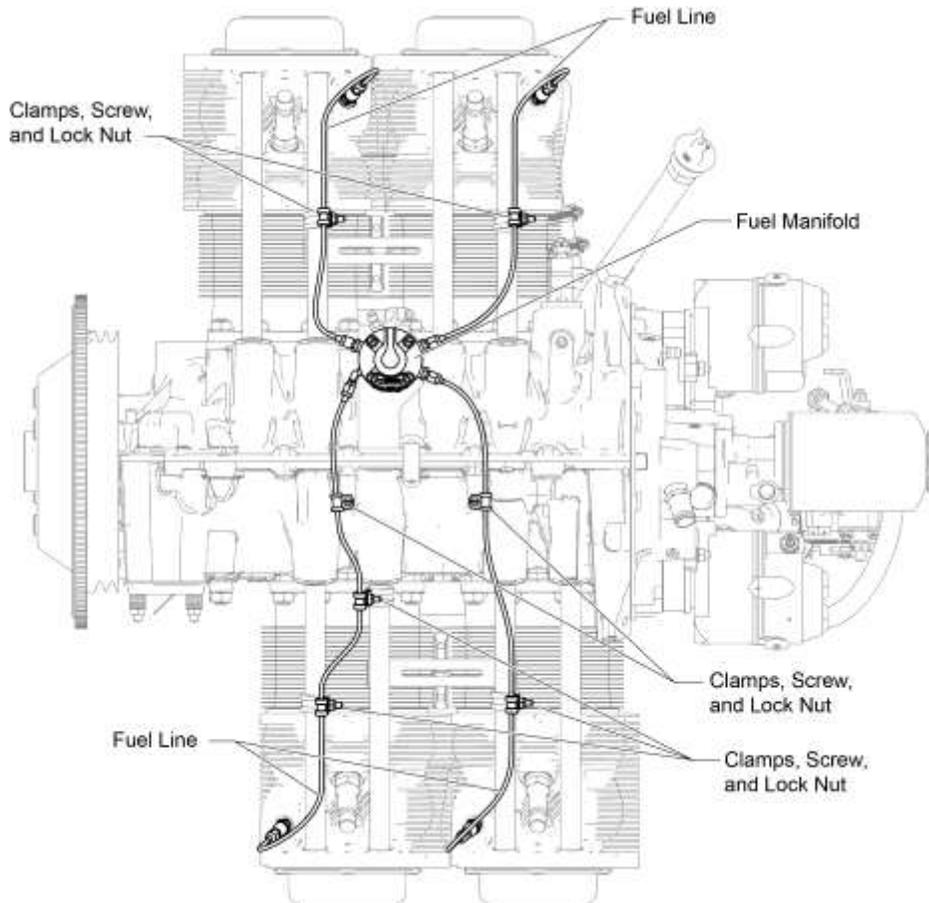

Figure 1
NOTICE: Figure 1 is a general conceptual reference figure of fuel system components. Some of the LIO-360-B1G6 Engines contain fuel system components made up of different configurations and part numbers. Refer to the applicable latest edition of the *LIO-360-B1G6 Illustrated Parts Catalog* for part number details.
- C. Examine the fuel manifold (Figure 1) for damage, leaks, and loose fittings or connections. Tighten any loose fittings or connection. Replace a damaged fuel manifold per the “Fuel Manifold Replacement” procedure in this chapter.
- E. Examine each injection nozzle (Figure 1) for damage or wear; replace a damaged or worn injection nozzle per the “Injection Nozzle Replacement” procedure in this chapter.
- A. There are four fuel injector lines on this engine (Figure 1). For reference, identify each fuel line by number to the corresponding cylinder.